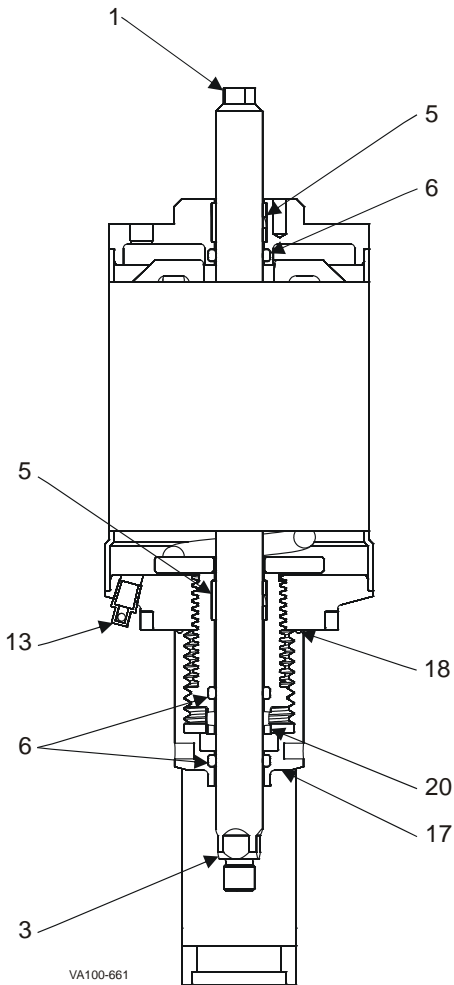

Figure 42: 4", 5" and 6" Air-to-Lower, Adjustable-Spring Actuator
4. Using wrenches on the upper and lower wrench flats, unscrew and remove the upper stem (Figure 42, item 1). **Do not remove the lower stem (item 3) as it locates an internal support washer.**
5. Remove and inspect the indicator area stem o-ring (item 6). Remove the worn o-ring seal. Coat the new o-ring seals with Dow Corning® #7 Silicone Lubricant or equivalent, and replace them.
6. Inspect and replace the PTFE guide bearing (item 5) in the indicator area as needed.
8. Once secure, screw in the adjustment screw (item 20) until it is held by threads (not in its final position). Refer to Adjustable-Spring Actuators: Pressure Setting (Table 3 on page 17) for setting it to the desired loading pressure.